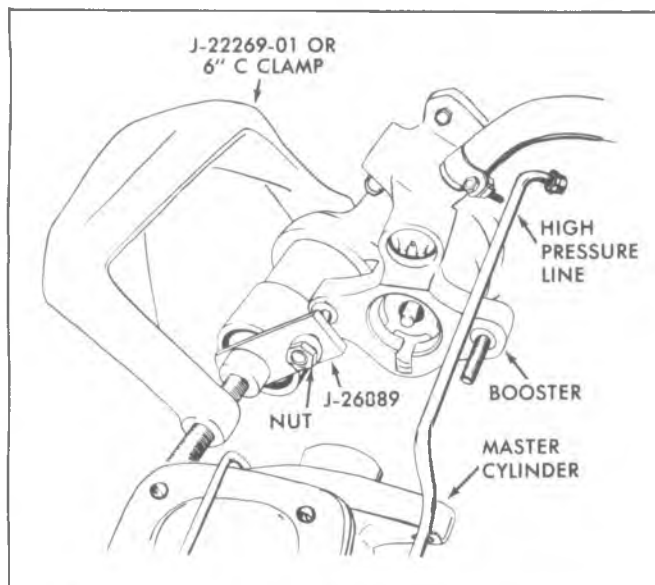

Fig. 5-51--Compressing Accumulator With J-26889
4. Place the accumulator retaining cap Tool J-26889 over the master cylinder stud and install the nut as shown in Figure 5-51.
screwdriver, (fig. 5-51).
2. Using Tool J-22269-01 or a large "C" clamp (6" minimum) depress the accumulator making certain that the accumulator is compressed straight (fig. 5-51).